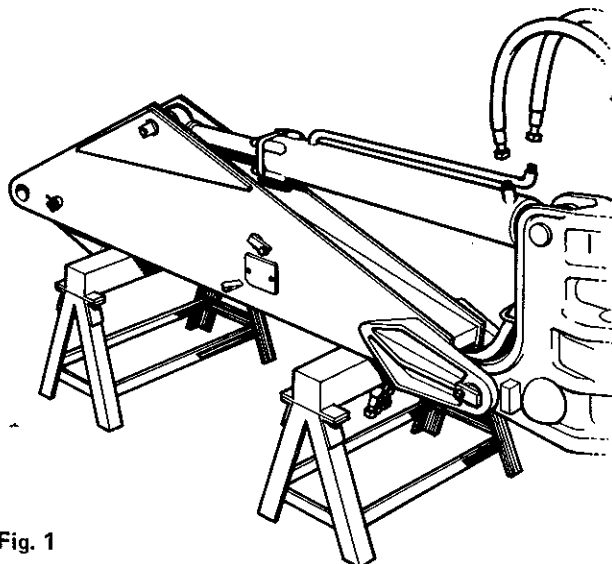

Fig. 1
5. **Boom. Lower.** Lower the boom until its end touches the ground, or until it is resting on supports (fig. 1).